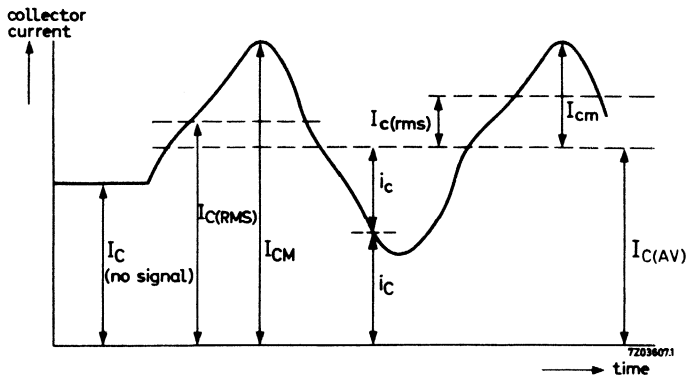

Fig. 1
4. List of subscripts (examples, see figure 1)
- (BR) = Break-down
- (AV), (av) = Average value
Figure 1 represents a transistor collector current, consisting of a direct current and a signal, as a function of time.